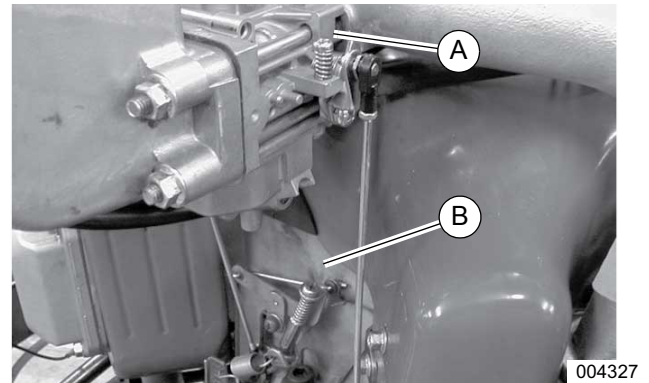

Figure 6-7. Dynamic Governor Adjustment (Earlier Version)
2. See Figure 6-7. Set speed control lever to SLOW speed position and hold throttle lever against idle stop screw (A).
4. Slowly move speed control lever to high-speed position. Do not exceed 3800 rpm (see Figure 6-7 or Figure 6-10 depending on governor version).
5. With speed control in the high-speed position, adjust high-speed screw to obtain desired engine speed (see Figure 6-7 or Figure 6-10 depending on governor version).